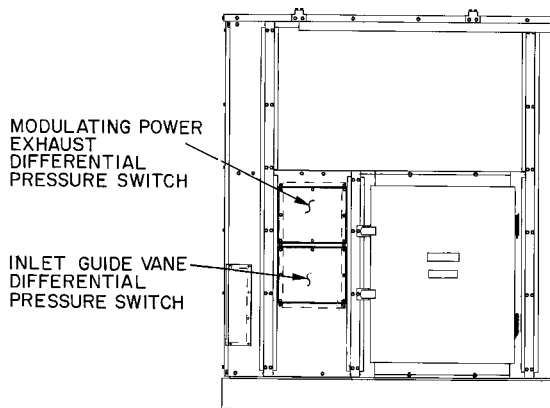
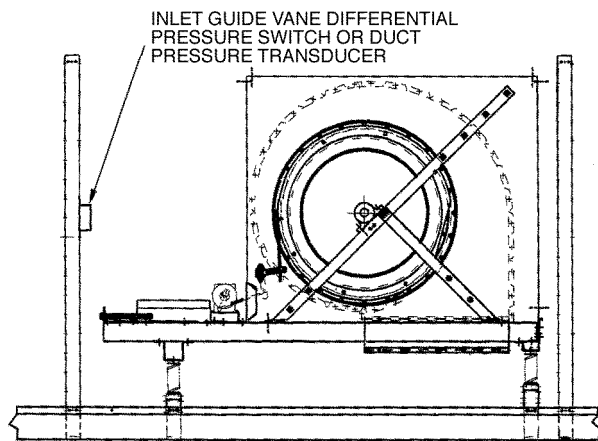

Fig. 33 — Modulating Power Exhaust and Inlet Guide Vane Differential Pressure Switch (Sizes 034-048)
Fig. 34 — Inlet Guide Vane Differential Pressure Switch and Variable Frequency Drive (Sizes 054-104)
The inlet guide vanes are controlled by a differential pressure switch (DPS). On sizes 034-048, the DPS is located in the auxiliary control box at the economizer end of the unit (see Fig. 33). On sizes 054-104, the DPS is located in the supply fan section. See Fig. 34. Use a nominal 3/8-in. plastic tubing.
The duct pressure is sensed by a pressure transducer. The pressure transducer output is directed to the VFD. On 034-048 units the DP transducer is located in the auxiliary control box. On 054-104 units, the DP transducer is located in the supply fan section. See Fig. 34. Use a nominal 1/4-in. plastic tubing.
A differential pressure switch (DPS) is used to control the actuator on the modulating discharge damper in exhaust fan no. 1. The building pressure (BP) DPS is located in the auxiliary control box of the unit. See Fig. 33 and 35. Use a nominal $\frac{3}{8}$ -in. plastic tubing.